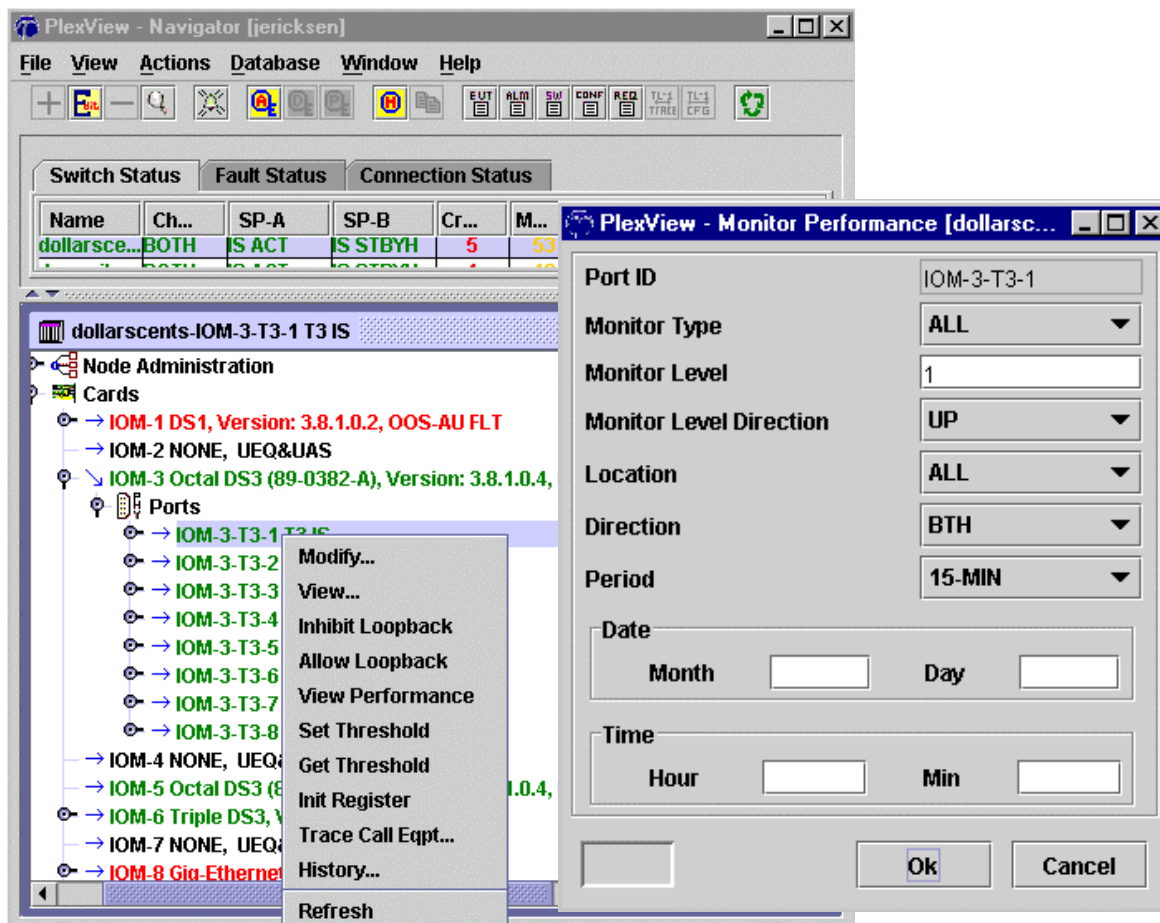
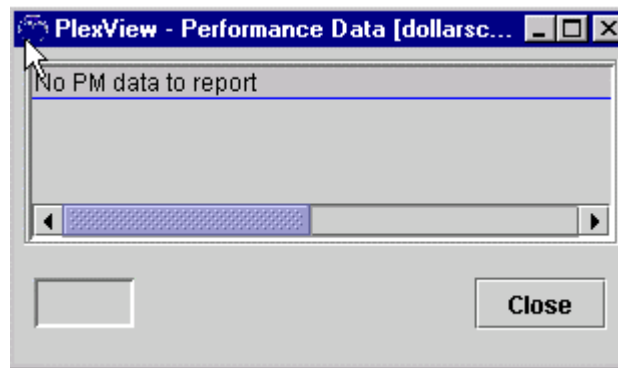

**Figure 1. Monitor T3 Performance**
Figure 2. Performance Data
5. Retrieve current and historical performance data for T3. Double-click *Switch*, *Switch name*, *Cards*, desired *IOM*, *Ports*, and desired port. Right-click desired port, select *View Performance*. Make changes if necessary and then click *Ok*. Refer to Figure 1. After clicking *Ok*, you will see a screen similar to Figure 2.